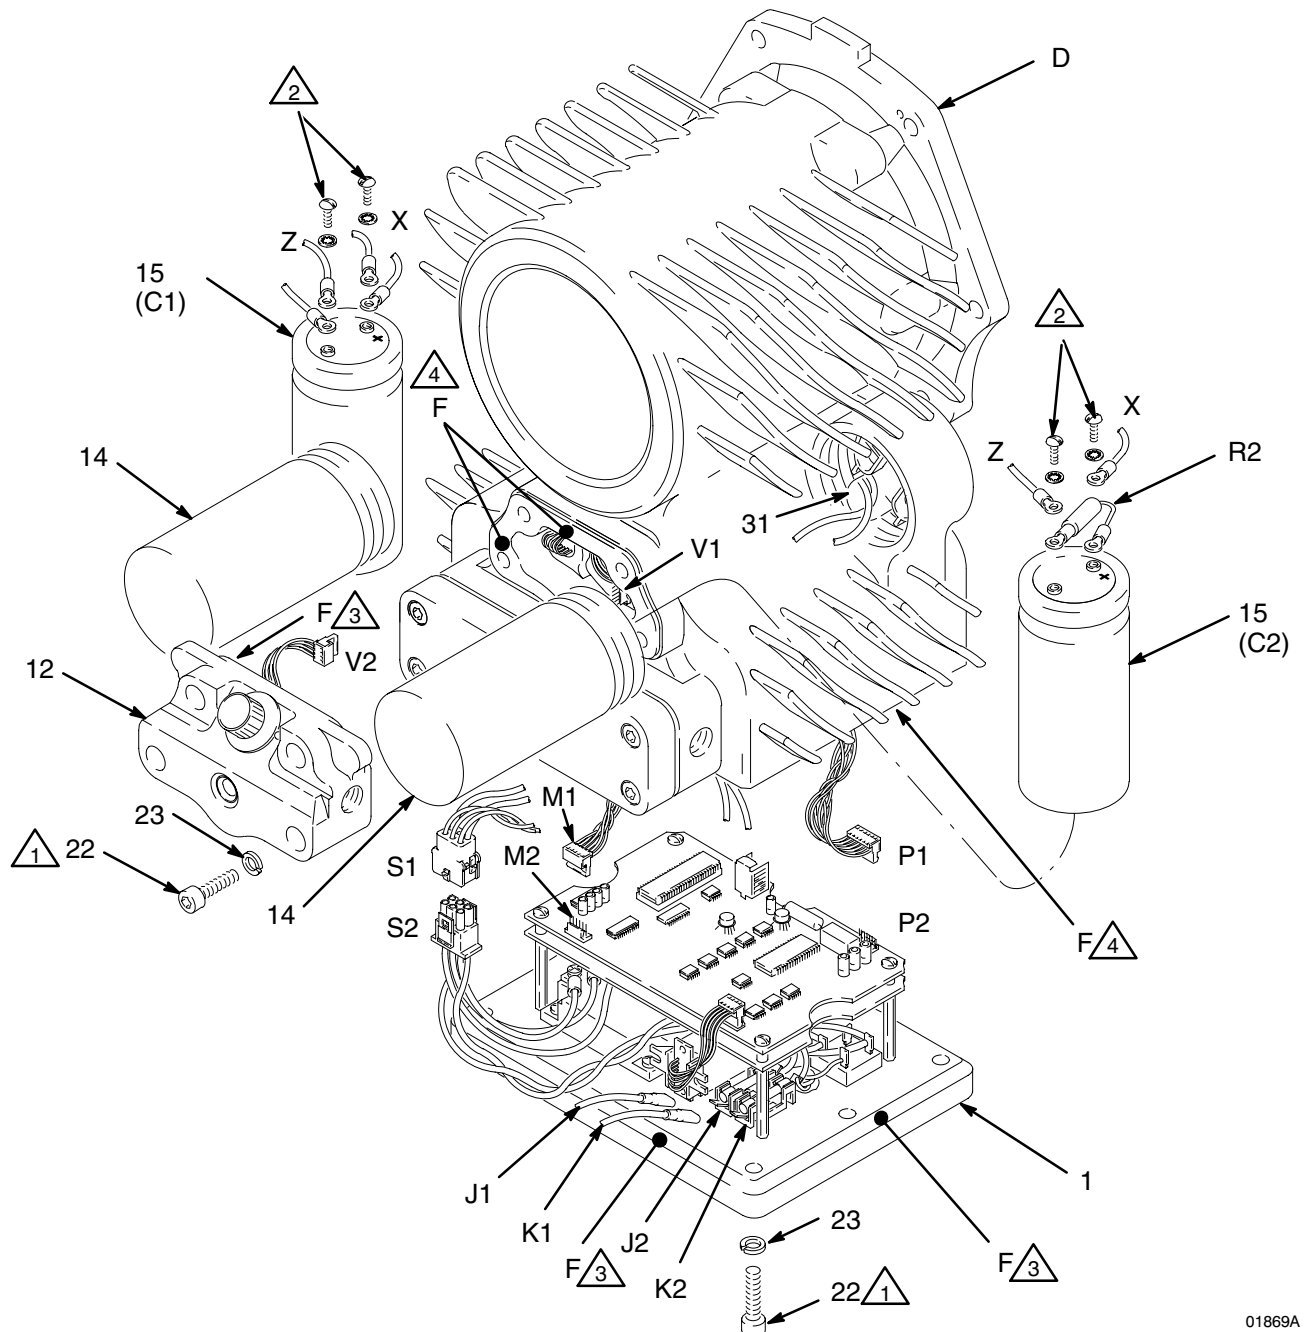
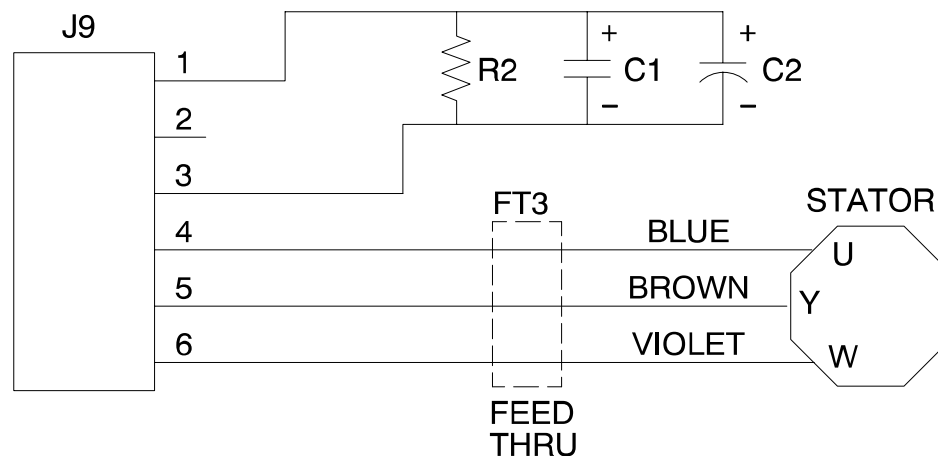

Fig. 8
Fig. 9
Be sure to install all covers correctly and torque all fasteners as specified. Incorrect assembly or damage to the cover and housing flame path surfaces (F, Fig. 8) creates an explosion hazard when located in a hazardous area. Never operate the motor with loose, removed, or damaged covers.
Be sure to install the electronic control module (1) correctly and torque all fasteners as specified. Incorrect assembly or damage to the module and housing flame path surfaces (F, Fig. 8) creates an explosion hazard when located in a hazardous area. Inspect the inner flame path surface of the module and the mating outer surface of the motor housing (D). These surfaces must be smooth, with no nicks or scratches. Never operate the motor if the module is loose, removed, or damaged.
2. Remove the screws (22) and washers (23) holding the control module (1) to the motor housing (D). Carefully move the module away from the housing. See Fig. 8.
4. Disconnect the 6-pin (M1) and 7-pin (P1) connectors from their mating connectors (M2, P2) on the module (1).
6. Remove the electronic control module (1). There are no user-serviceable parts on the module.
7. Inspect the inner flame path surface of the new electronic control module (1) and the mating outer surface of the motor housing (D). These surfaces must be smooth, with no nicks or scratches. Do not operate the motor if these surfaces are damaged.
8. Install the new electronic control module (1) in the reverse order of disassembly. Push all the wires well up into the motor housing (D), to avoid pinching them when reattaching the module.
9. Use a feeler gauge to check that the gap between the electronic control module (1) and the motor housing (D) does not exceed 0.04 mm (.0015 in.). Torque screws (22) to 10–15 N•m (89–133 in-lb).
Be sure to install the signal cover (12) correctly and torque all fasteners as specified. Incorrect assembly or damage to the cover and housing flame path surfaces (F, Fig. 8) creates an explosion hazard when located in a hazardous area. Inspect the inner flame path surface of the cover and the mating outer surface of the motor housing (D). These surfaces must be smooth, with no nicks or scratches. Never operate the motor if the cover is loose, removed, or damaged.
2. Remove the screws (22) and washers (23) holding the signal cover (12) to the motor. Carefully move the cover away from the motor. See Fig. 8.
3. Disconnect the signal cover connector (V2) from its mating connector (V1) in the motor housing (D).
4. Remove the signal cover (12). There are no user-serviceable parts on the signal cover.
5. Inspect the inner flame path surface of the new signal cover (12) and the mating outer surface of the motor housing (D). These surfaces must be smooth, with no nicks or scratches. Do not operate the motor if these surfaces are damaged.
6. Install the new signal cover (12) in the reverse order of disassembly. Push all the wires well into the motor housing (D), to avoid pinching them when reattaching the cover. Make sure the capacitor covers (14) do not obstruct the signal cover.
7. Use a feeler gauge to check that the gap between the signal cover (12) and the motor housing (D) does not exceed 0.04 mm (.0015 in.). Torque screws (22) to 10–15 N•m (89–133 in-lb).
2. Remove the signal cover (12) as explained under **Replacing the Signal Cover**. Set the cover aside.
3. Unscrew the two capacitor covers (14) from the motor housing (D). See Fig. 8.
4. Carefully pull the capacitors (15; C1 and C2) away from the motor housing, enough to see the wire connections. The capacitors are wired together in parallel. Note that one capacitor (C2) has one + wire (X), one – wire (Z), and a bleed resistor (R2) connected to it; disconnect this capacitor first.
**NOTE:** If you pull the free wires out of the capacitor C2 cavity, you may have to remove the electronic control module (1) to retrieve them.
7. Install the capacitors in the reverse order of removal. Be sure the wires feed through the slot in the plastic insulators (31). Be sure to connect the + wires (X) to the + terminals and the – wires (Z) to the – terminals. Be sure to reinstall the bleed resistor (R2) on capacitor C2, as shown in Fig. 8. Torque the terminal screws to 2.7–3.4 N•m (24–30 in-lb). See Fig. 9 for the capacitor wiring diagram.
8. Turn the capacitor covers (14) in completely to ensure that they do not prevent the signal cover (12) and housing flanges from mating.